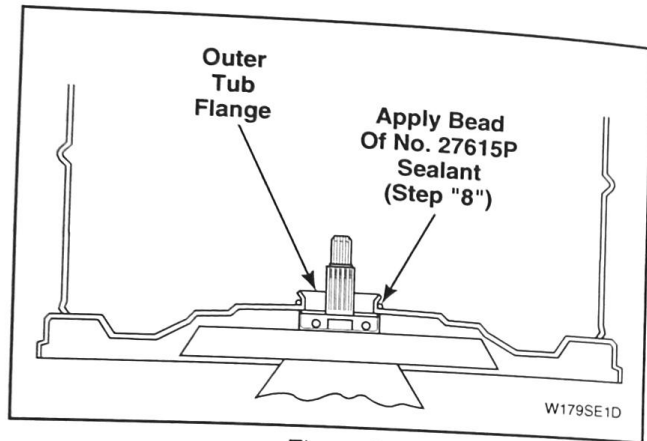

Figure 2
8. Apply a small amount of 27615P Sealant (included with 646P3 kit or available from parts distributor) around outer surface of tub flange. Refer to *Figure 2*.